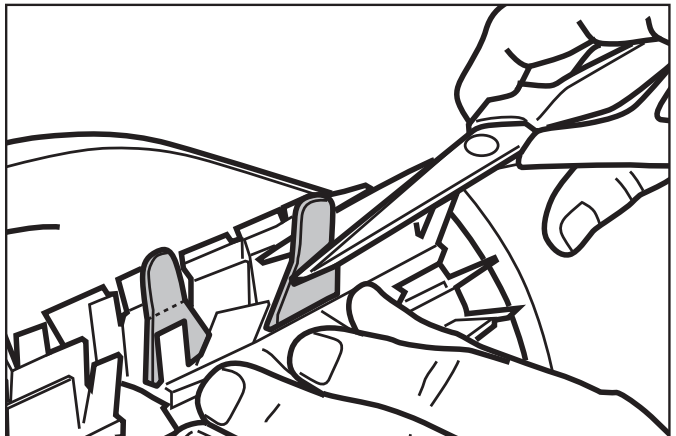

Figure 27. Cut Tabs
5. Use scissors to cut the tabs so they are no higher than the spikes (see Figure 27).